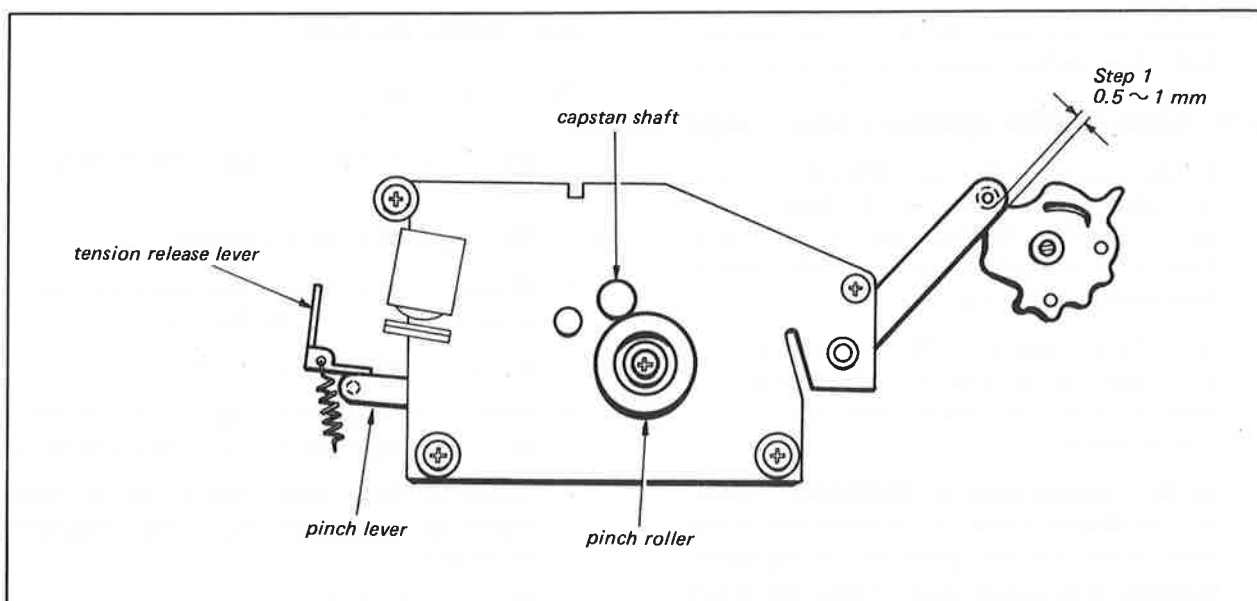

Fig. 4-21. Capstan deck adjustment
17. Put the Capstan Deck Assembly with Flywheel on the four posts of the chassis. Position the Pinch Lever with relation to Tension Release Lever as shown in Fig. 4-21.
1. Set the Function Lever to FORWARD. Check that the clearance between the Pinch Lever and the Function Selector Cam is 0.5 to 1 mm. If necessary, readjust the position of the Capstan Deck Assembly. See Fig. 4-21.